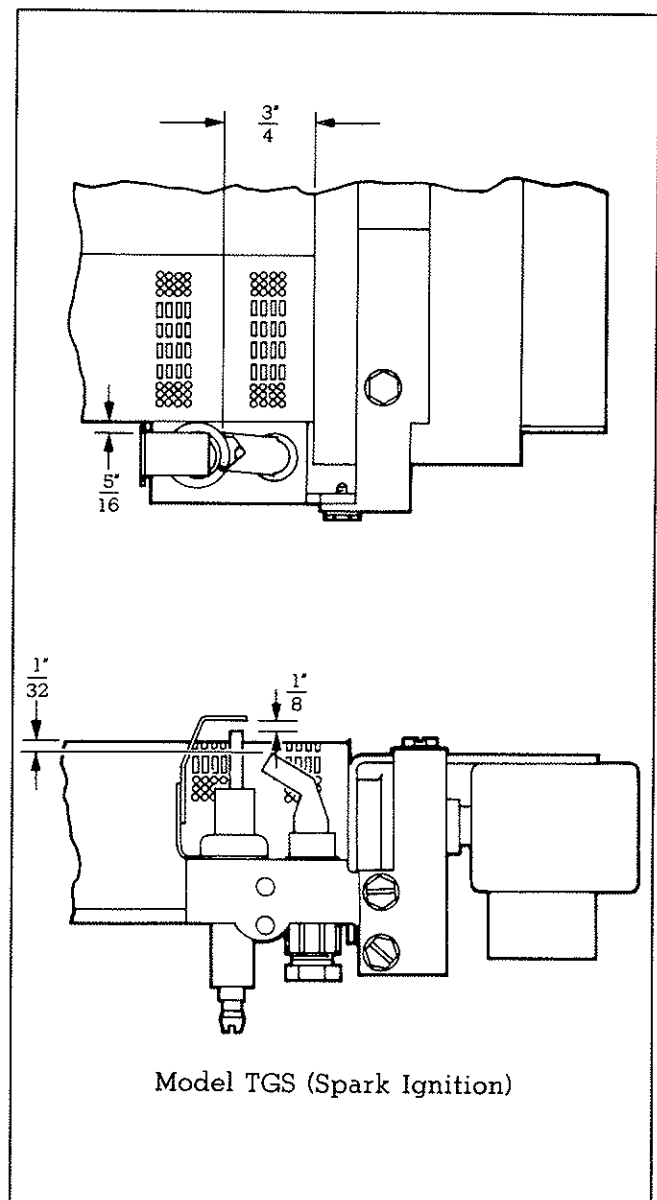

Figure 24. Pilot Burner Location - Model TGS
For models TGS (Spark Ignition) see Figs. 24 and 25.
1. **Pilot Burner.** Make sure it is properly positioned next to main burner as shown and free of soot and dirt (see Fig. 24).